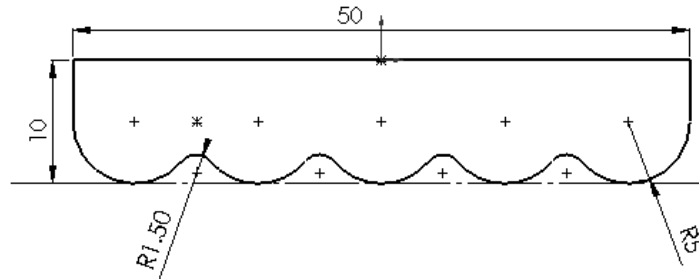

Figure 9-41 Sketch for the base feature
- Create the base feature of the model by extruding the profile to a given distance, refer to Figures 9-41 and 9-42.
2. Invoke the **Extruded Boss/Base** tool and draw the sketch of the base feature on the **Front Plane**. Add the required relations and dimensions to the sketch, as shown in Figure 9-41.